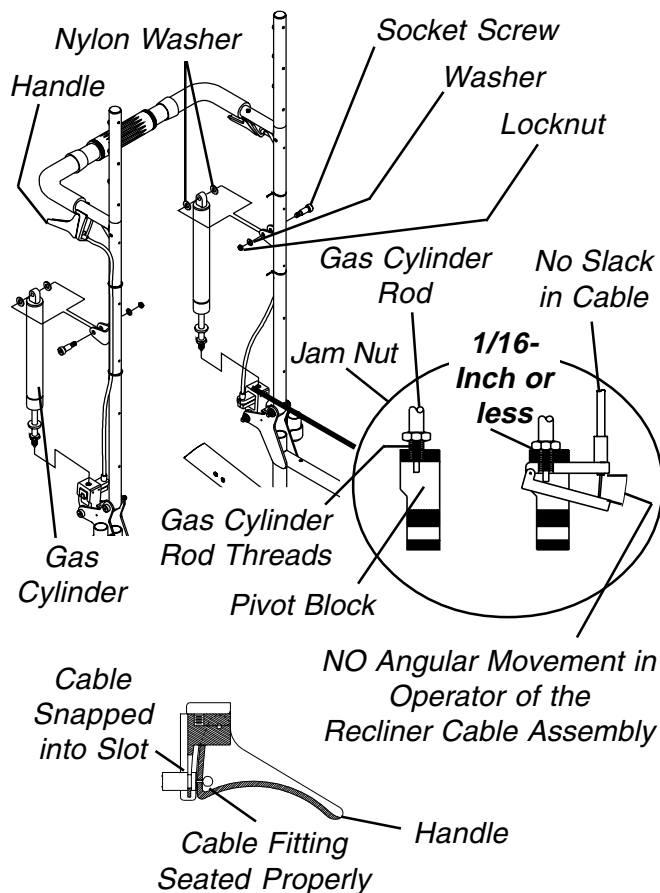

FIGURE 7 - REPLACING/ADJUSTING GAS CYLINDERS
REPLACING/ADJUSTING GAS CYLINDERS (FIGURE 7)
4. Finger tighten jamnut on **NEW** gas cylinder until it bottoms out on the cylinder rod (FIGURE 7).
5. Screw the cylinder rod of the new gas cylinder into the pivot block until the shoulder of the cylinder rod is flush with the inside of the pivot block (FIGURE 7).
8. Thread cylinder rod into cable operator **ONLY** to the point where there is no slack in cable, no angular movement in cable operator, and recliner cable operator assembly is no more than a space equal to or less than 1/16-inch away from pivot block (FIGURE 7).
9. Visually inspect the trigger assembly to ensure that the cable fitting is seated properly in the trigger assembly and that cable end is completely snapped down into slot (FIGURE 7).
- A. Finger tighten the jam nut on the rod of the gas cylinder until it bottoms out on the rod of the cylinder (FIGURE 7).